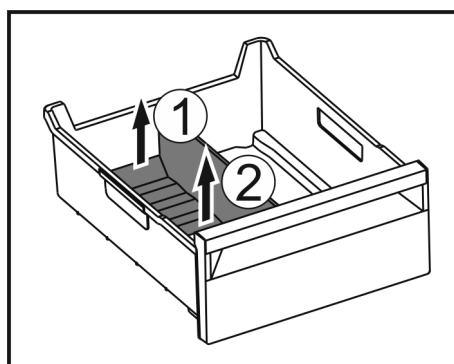

Fig. 151
- Lift the rear part of the ice compartment divider. Fig. 151 (1)
- Remove the ice compartment divider upwards. Fig. 151 (2)